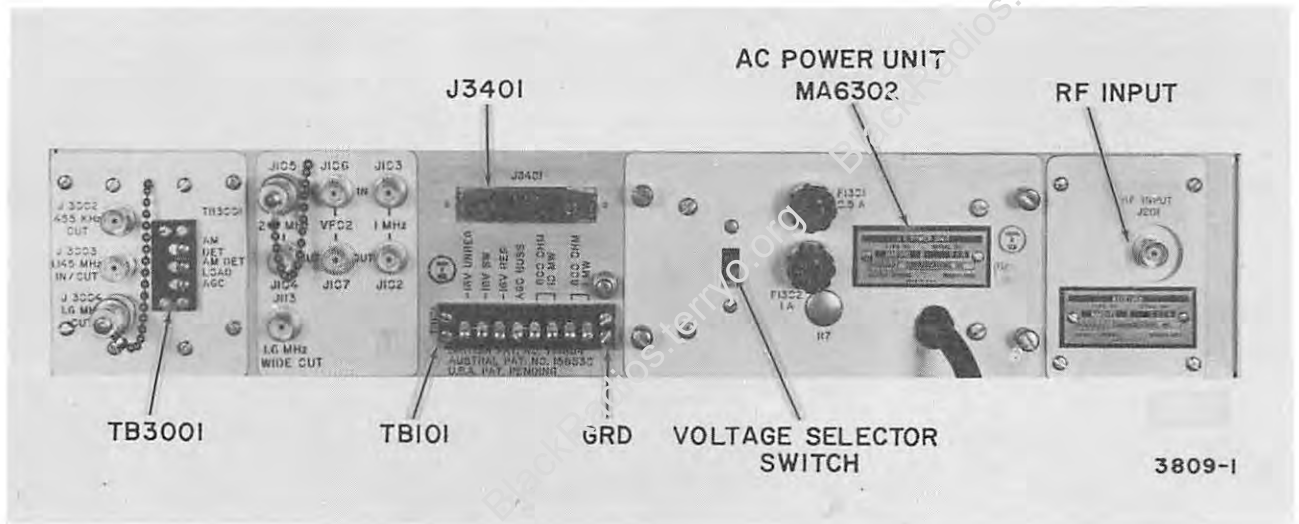

FIGURE 2-1 R-1555 REAR PANEL, WITH MA6302
(1) Check to see that the voltage selector switch (fig. 2-1) is in the proper position; up for 115 vac (115 is visible) and down for 230 vac (230 is visible).
(2) To change the position of the voltage selector switch, use a screwdriver or similar tool.
(3) Check to see that fuse F1301 is 0.5-ampere, fuse F1302 is 1-ampere.
(4) Plug the AC plug into a voltage socket that is to be used as the AC power source.
- b. Power Supply MA6302 (fig. 2-1). Refer to table 3-2, below.
- a. Insure that the voltage selector switch (fig. 2-1) is in the proper position (115 VAC or 230 VAC).